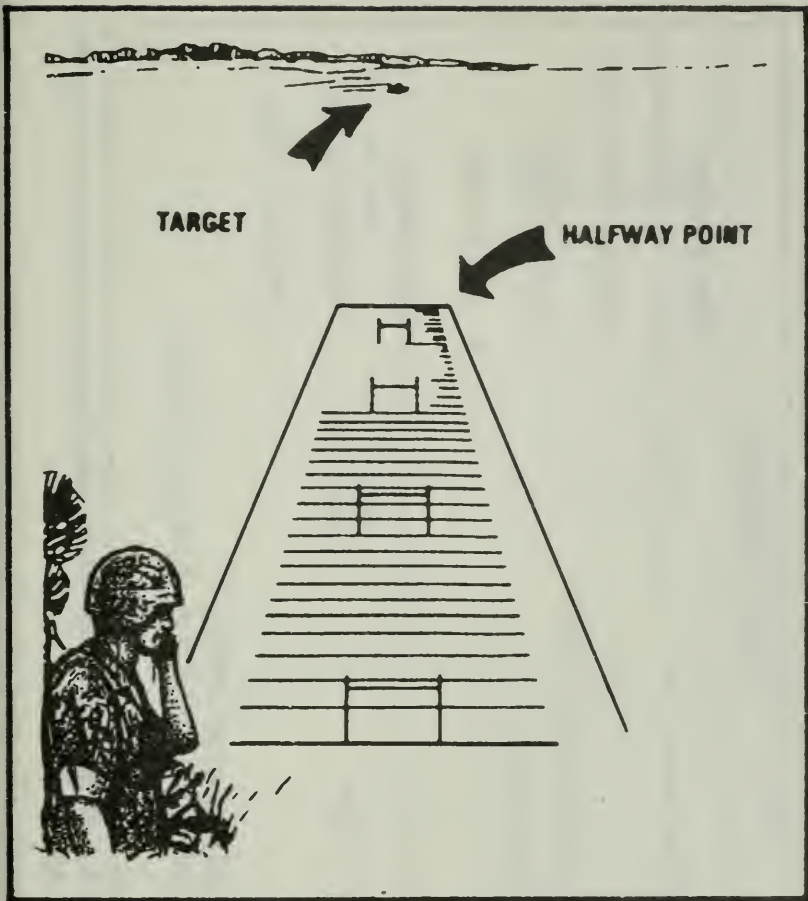

Figure 2. Halfway point.
c. For range between 500 and 1,000 meters, pick a point halfway between you and the target. Then determine the distance to the halfway point as described above. Double the estimate to find the range to the target (Figure 2).